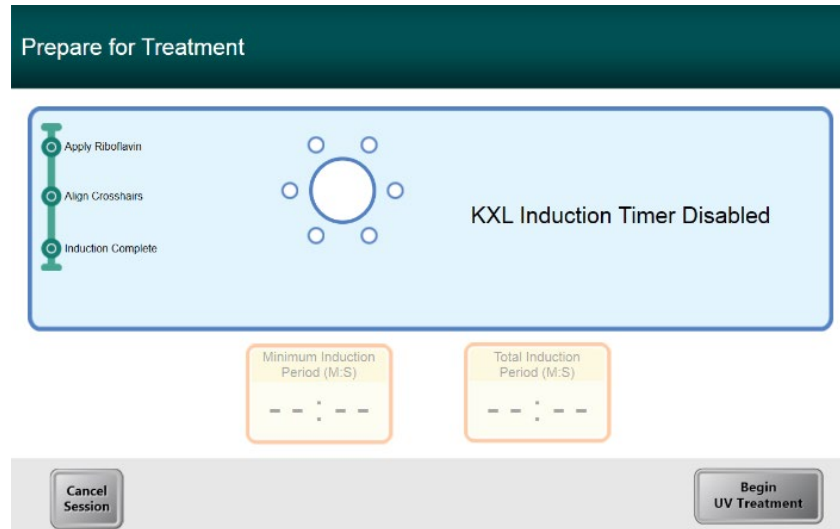

Figure 3-14. Prepare Patient Screen: KXL Timer Disabled
- If “Use External Induction Timer” is chosen, the internal KXL Induction timer will be disabled and user is responsible for monitoring Induction time using an alternative method. See Figure 3-14.